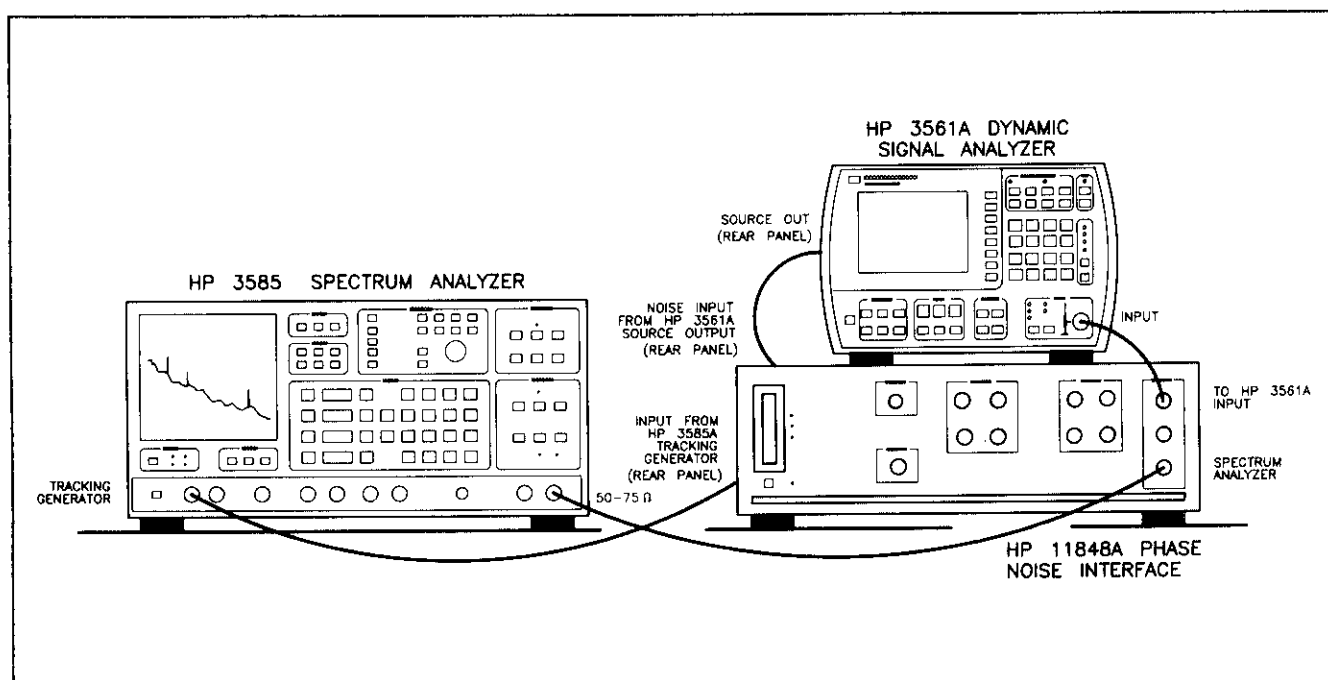

Figure 32. Sixth Option 2 Calibration Setup
20. Connect the instruments as shown on the display and in figure 32.